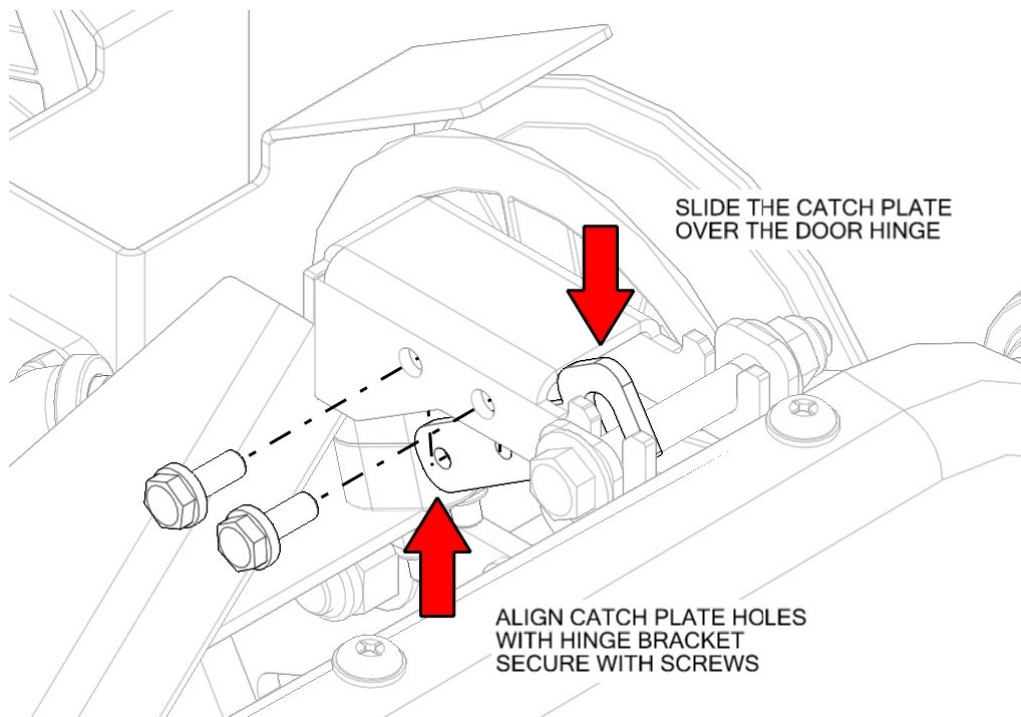

Figure 60 – Hinge Catch Bracket
- Slide the catch plate over the hinge, line up the holes with the hinge brackets and secure with screws, Figure 60.